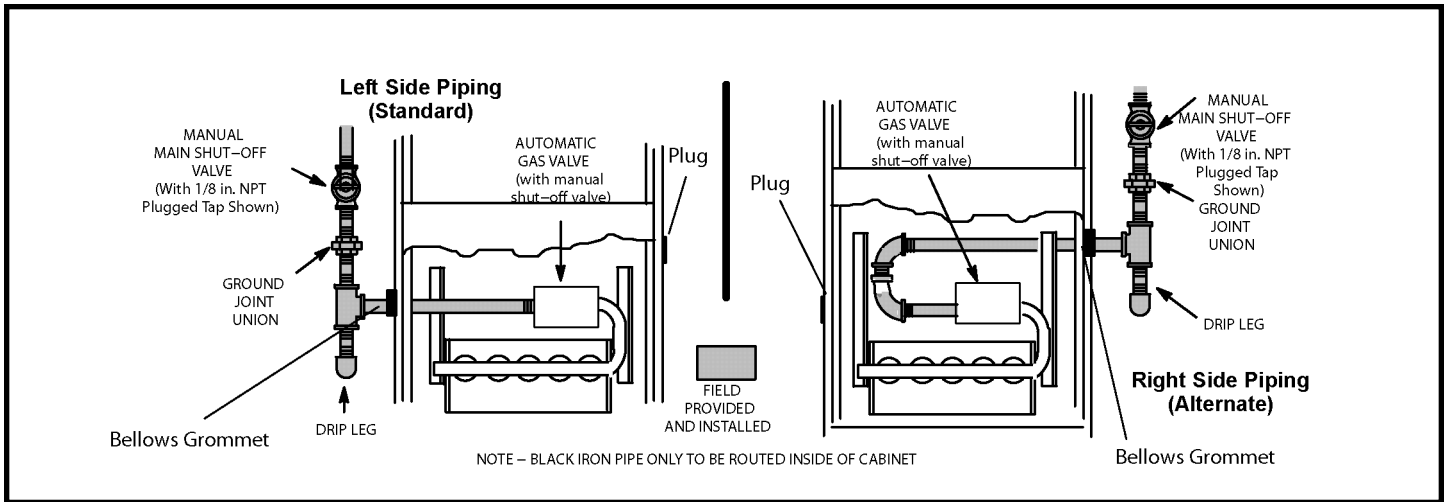

Figure 51
1. Gas piping may be routed into the unit through either the left or right hand side. Supply piping enters into the gas valve from the side of the valve as shown in Figure 51. Move bellows grommet to side of the cabinet which the gas line enters. Ensure opposite gas line entrance is plugged with supplied plug.
3. Gas piping must not run in or through air ducts, clothes chutes, chimneys or gas vents, dumb waiters or elevator shafts. Center gas line through piping hole. Gas line should not touch side of unit. See Figures 51.